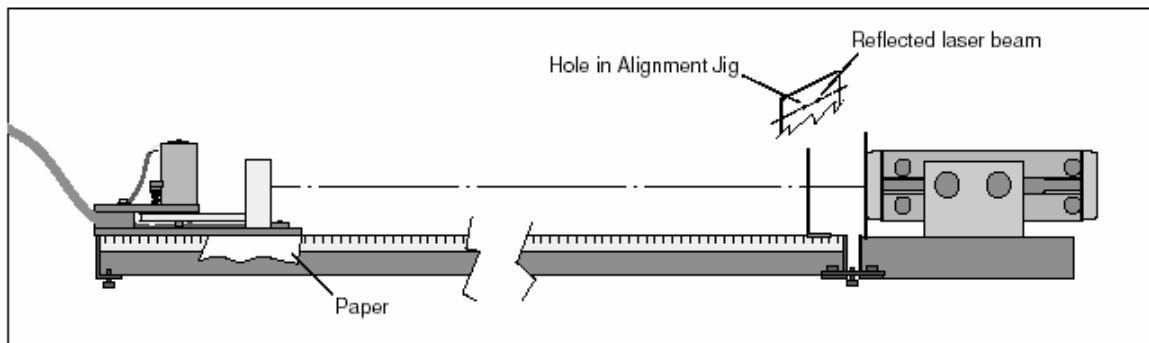

Figure 9: Aligning the Rotating Mirror ( $M_R$ )
9. Align the Rotating Mirror.  $M_R$  must be aligned so that its axis of rotation is vertical and also perpendicular to the laser beam. To accomplish this, remove the second alignment jig and then rotate  $M_R$  so that the laser beam reflects back toward the hole in the first alignment jig (Figure 9). Be sure to use the reflective side of the mirror. It helps to tighten the lock-screw on the rotating mirror assembly just enough so  $M_R$  holds its position as you adjust its rotation.